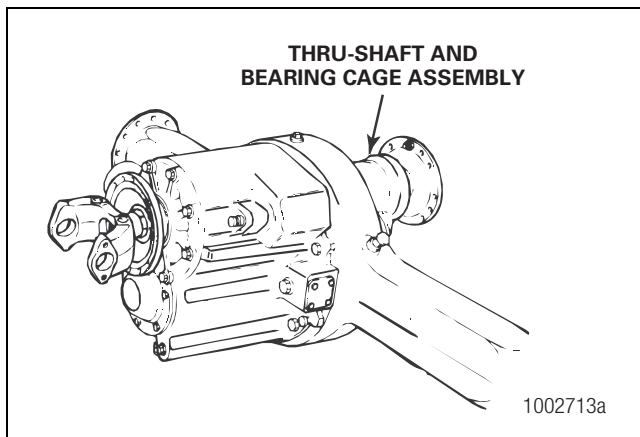

Figure 3.9
6. Pull the bearing cage, bearings and shaft assembly from the axle housing. If necessary, loosen the cage from the housing with a soft mallet. Figure 3.9.